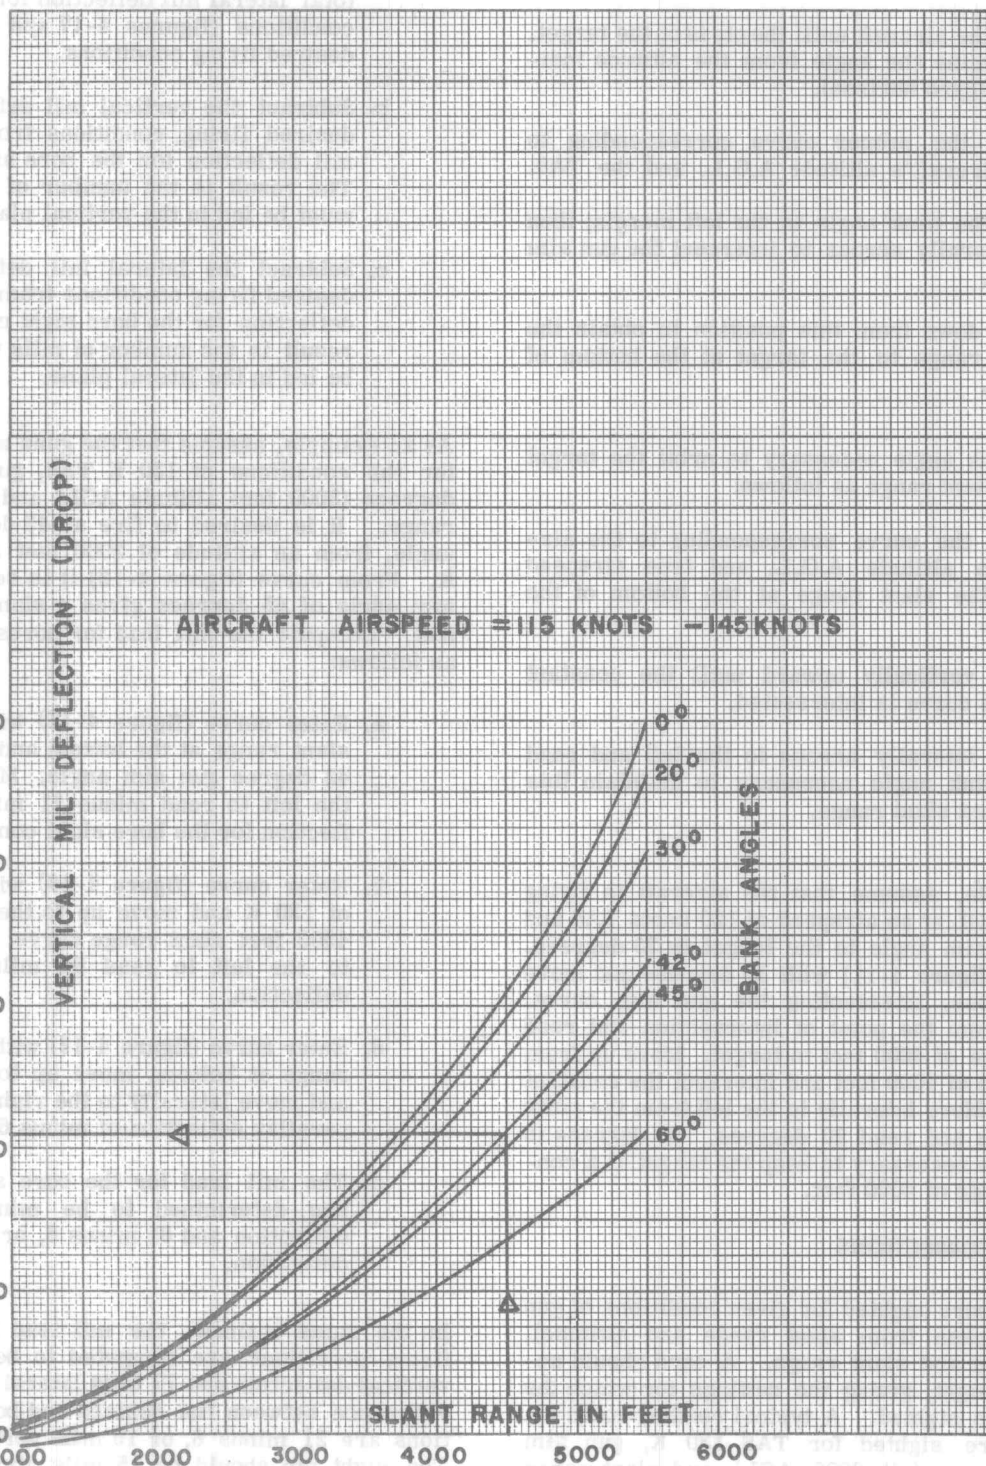

Figure 4-17. Gun Aiming Curve
- a. First obtain the vertical mil deflection and total lateral mil deflection for the bore sight conditions (figures 4-17 and 4-18) and the desired firing conditions.
- a. Enter curve (figure 4-17) with the 4500 feet slant range at the bottom and move up to the 42 degree gun aim angle. Move laterally to the left to read minus 21 mils vertical deflection for the bore sight conditions.